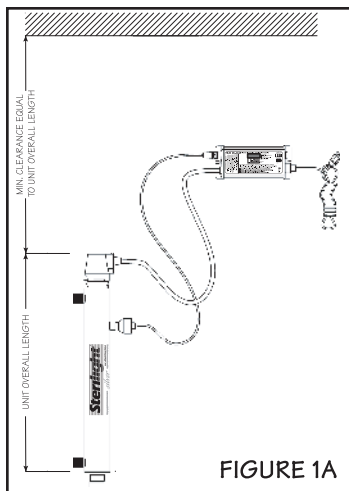

FIGURE 1A
2. Select a suitable location for the disinfection system and its related components. As it is recommended to install a ground fault protected circuit (GFCI), make sure that this is taken into consideration prior to any installation. The system can either be installed vertically (inlet port at the bottom) (Figure 1A), or horizontally (Figure 1B), however the vertical installation is the most preferred method. When selecting a mounting location, you must also leave enough space to allow for the removal of the UV lamp and/or quartz sleeve (typically leave a space equal to the size of the reactor chamber itself).